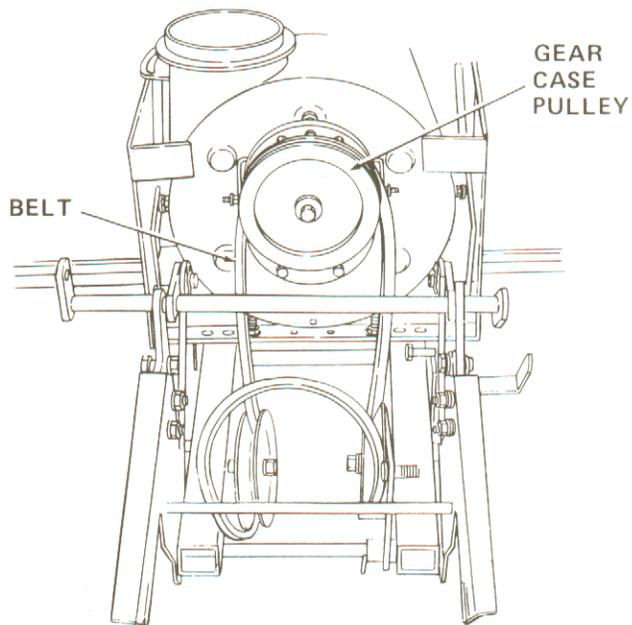

Figure 17
9. Route belt over gear case pulley on snow thrower attachment. Refer to Figure 17.